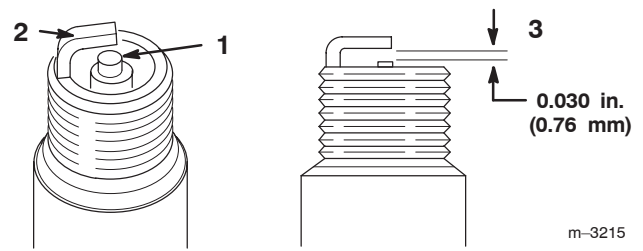

Figure 25
1. Look at the center of the spark plugs (Fig. 25). If you see light brown or gray on the insulator, the engine is operating properly. A black coating on the insulator usually means the air cleaner is dirty.
2. Check the gap between the center and side electrodes (Fig. 25).
3. Bend the side electrode (Fig. 25) if the gap is not correct.